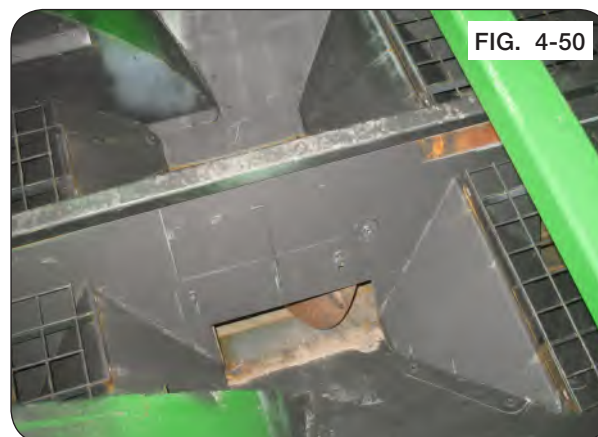

FIG. 4-50
2. Remove the flange screws in both middle grates inside the cart. Remove the grates. (Fig. 4-50)